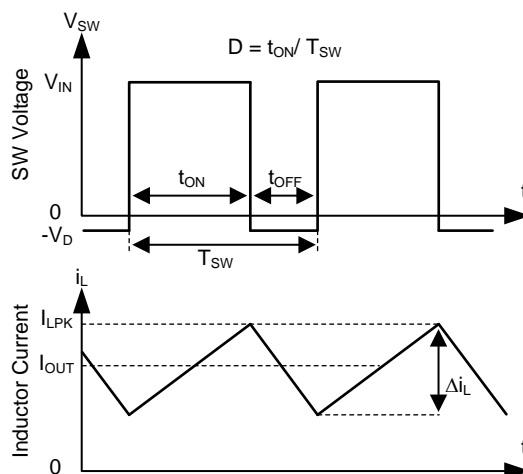

Figure 13. SW Node and Inductor Current Waveforms in Continuous Conduction Mode (CCM)
The following operating description of the LMR23625 refers to the Functional Block Diagram and to the waveforms in Figure 13. The LMR23625 device is a step-down synchronous buck regulator with integrated high-side (HS) and low-side (LS) switches (synchronous rectifier). The device supplies a regulated output voltage by turning on the HS and LS NMOS switches with controlled duty cycle. During high-side switch ON time, the SW pin voltage swings up to approximately V_{IN} , and the inductor current i_L increases with linear slope $(V_{IN} - V_{OUT}) / L$. When the HS switch is turned off by the control logic, the LS switch is turned on after an anti-shoot-through dead time. Inductor current discharges through the LS switch with a slope of $-V_{OUT} / L$. The control parameter of a buck converter is defined as duty cycle $D = t_{ON} / T_{SW}$, where t_{ON} is the high-side switch ON time and T_{SW} is the switching period. The regulator control loop maintains a constant output voltage by adjusting the duty cycle D . In an ideal buck converter, where losses are ignored, D is proportional to the output voltage and inversely proportional to the input voltage: $D = V_{OUT} / V_{IN}$.